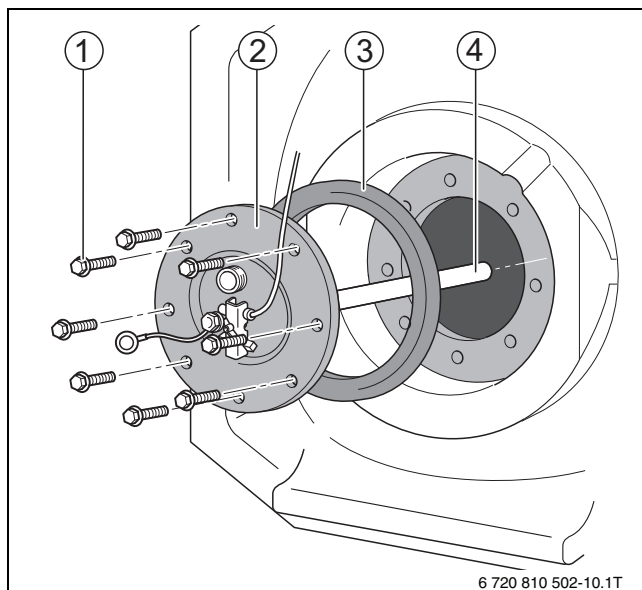

Fig. 16 Removing the cleanout cover
- ▶ Unscrew the hex bolts (→ Fig. 16 [1]) from the handhole cover [2].
- ▶ Remove the handhole cover (→ Fig. 16, page 15).